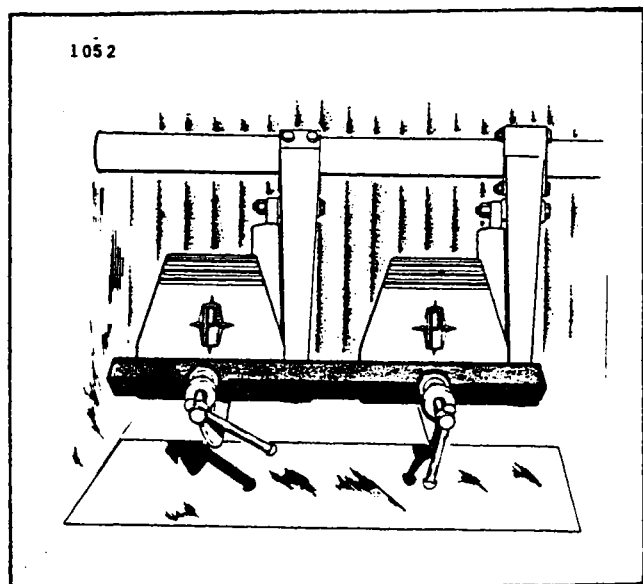

Figure 5-11. Clamping Rudder Pedals in Neutral Position
1. Clamp the rudder pedals to align in a lateral position as shown in Figure 5-11.